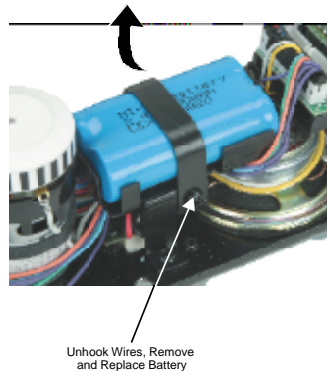

Figure 10
**Replace:** If the sounds are not improved at the end of the 15-minute test charge, it is time to replace the batteries. Available through M.T.H. Parts. (See figure 10)